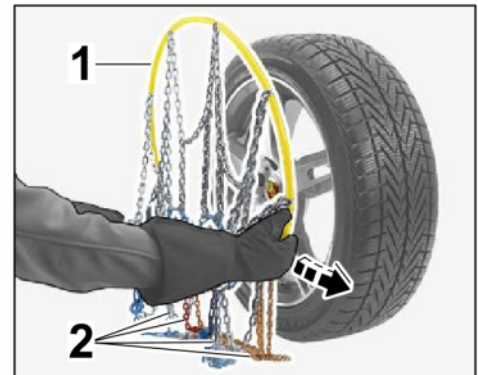

Figure 3
2.1.2 Arrange the snow chain's chain net (⇒ *Figure 3*).